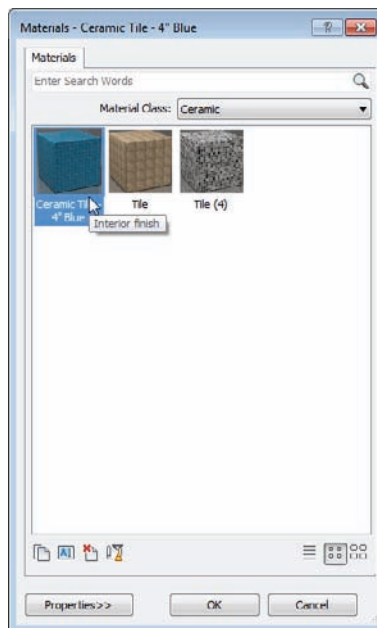

FIGURE 6.43 Finding the correct material
2. From the material list, change the Material Class to Ceramic, and select Ceramic Tile - 4" Blue from the menu, as shown in Figure 6.43.